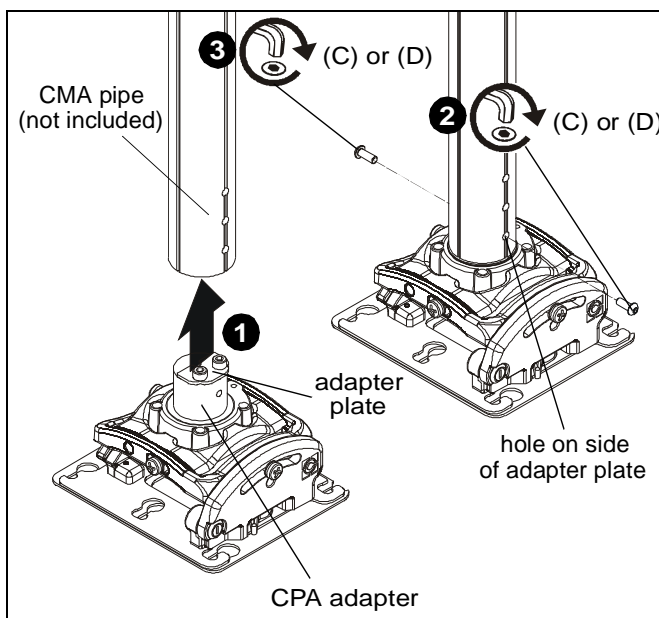

Figure 1
1. Making sure holes are aligned on RPME's CPA adapter and CPA column (not included), lift RPME into bottom opening of CPA column. (See Figure 1)
2. Install either one M6x16 button head screw (C) or security screw (D) into hole on side of CPA pipe where the adapter plate on CPA adapter is located. (See Figure 1)
3. On the opposite side of CPA pipe, use the other M6x16 button head screw (C) or security screw (D) to secure RPME (A) to CPA column. (See Figure 1)